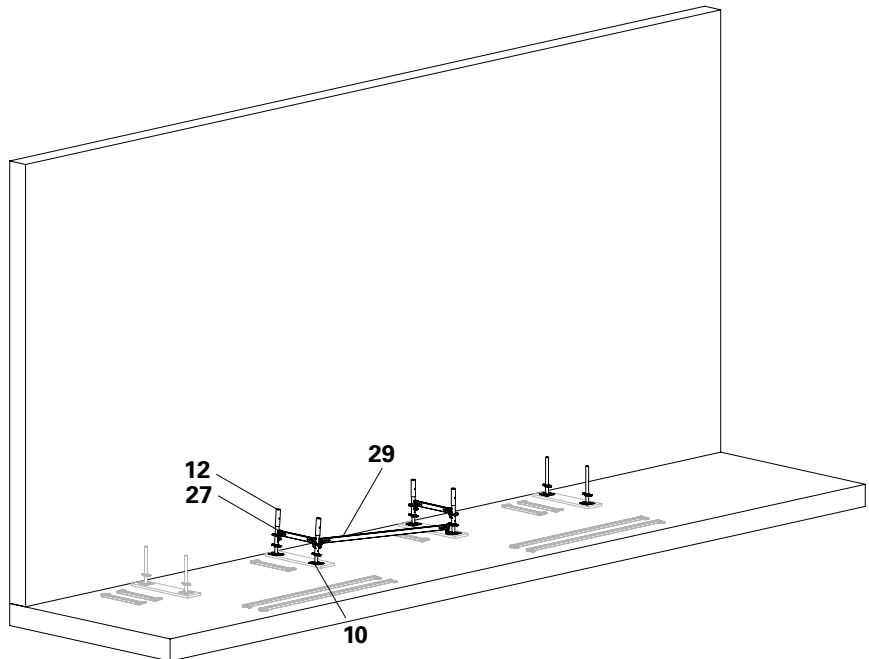

Fig. B2.02
1. Fit 2x Base Standards UVB 25 (12) onto the base spindles.
2. Fit 1x Horizontal Ledger UH-2 75 (27) onto a base unit, do not hammer the wedges in yet.
3. Secure with Horizontal Ledger UH-2 (29) to prevent it from falling over. (Fig. B2.02)
4. Fit the second base unit and connect with Horizontal Ledger UH-2 (29).